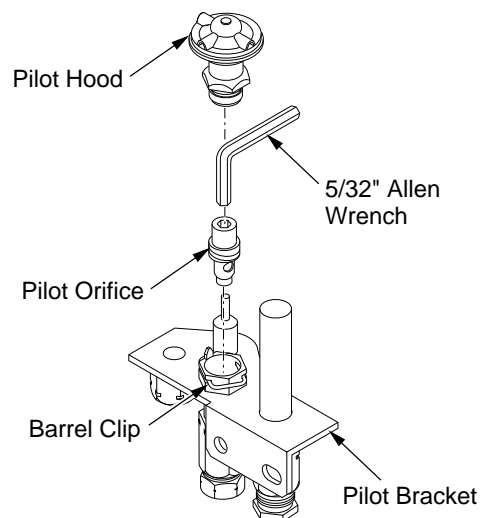

Figure 7 - Converting Pilot Orifice
1. Remove the pilot hood by pulling up until it disengages from the barrel. Do not remove the retainer clip (see Figure 7).